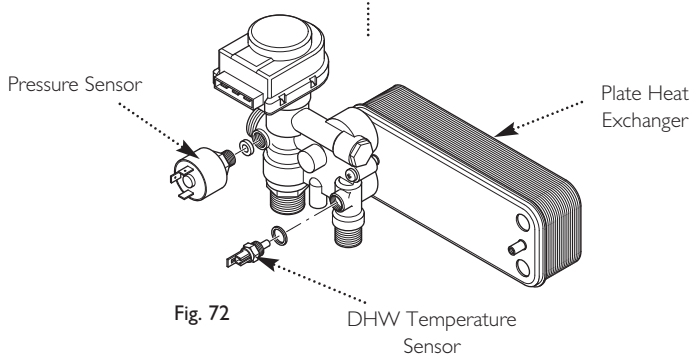

Fig. 72
13.10 Water Pressure Sensor (Fig. 72)
13.12 Safety Thermostat (Fig. 72)
13.13 DHW Temperature Sensor (NTC) (Fig. 72)